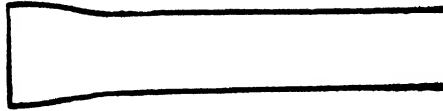
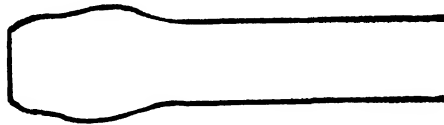

FIG. 23
FIG. 24
4. Light blows tend to upset the stock only on the end (Fig. 23), heavy blows tend to upset thru a greater length (Fig. 24).